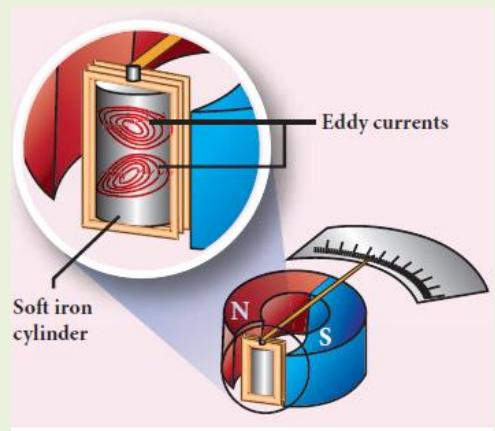

Figure 4.16 Electromagnetic damping
- ❖ The armature of the galvanometer coil is wound on a soft iron cylinder. Once the armature is deflected, the relative motion between the soft iron cylinder and the radial magnetic field induces eddy current in the cylinder (Figure 4.16).